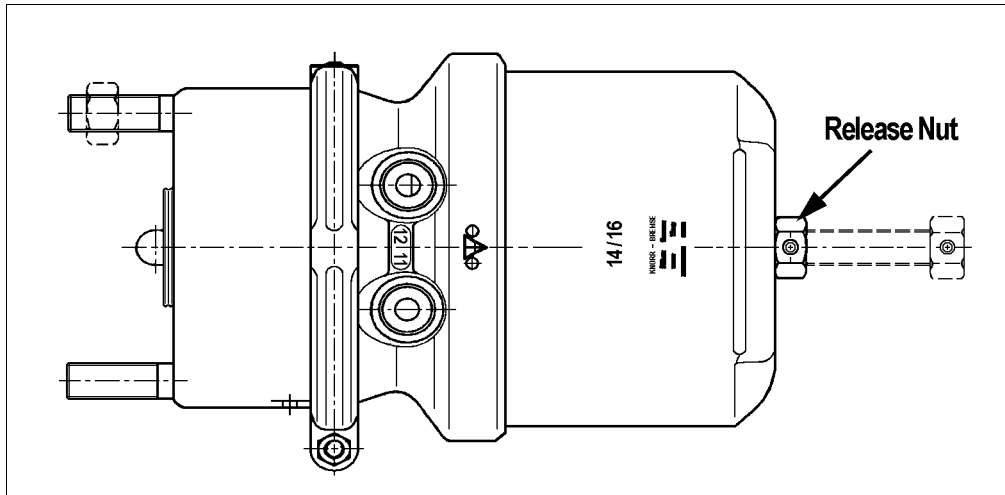

FIGURE 3
2. Turn the release nut counterclockwise to cage the power spring (approx. 2.5 inches (6 cm)). Repeat on the opposite side (refer to figure 3).